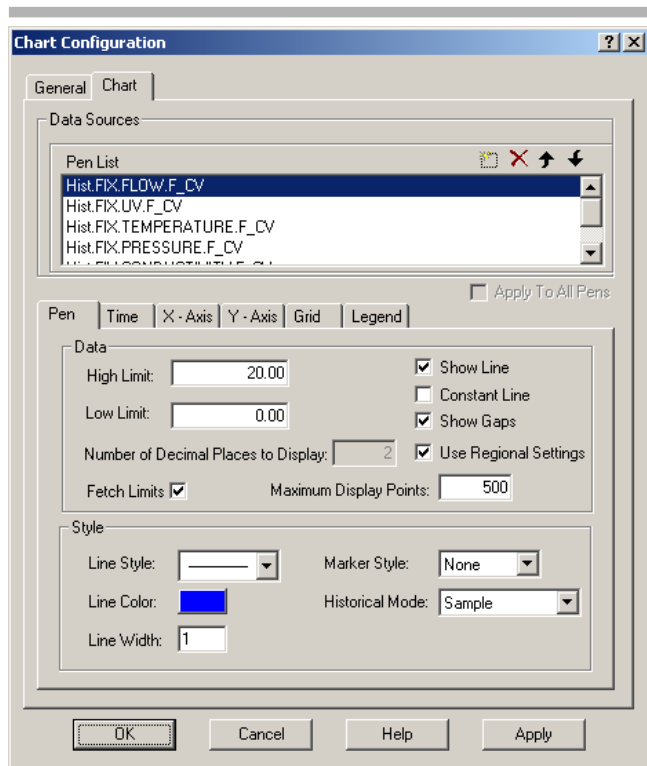

Fig 15.
6.7 Repeat step 6.5 and 6.6 until all items are selected (Fig 15).